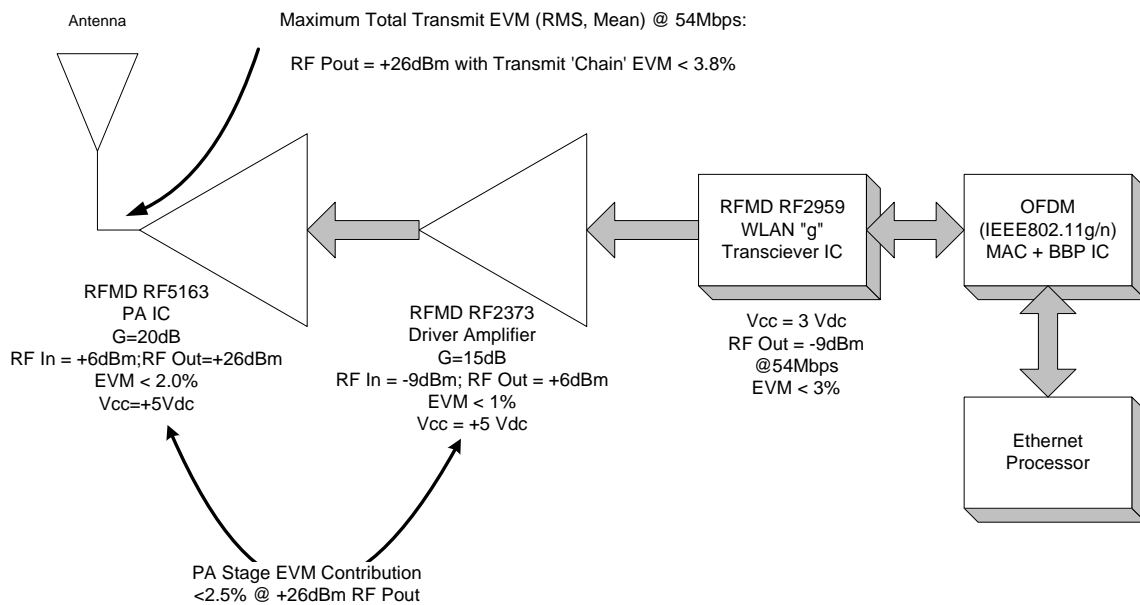

Figure 1. IEEE802.11g/n AP Transmitter Major Component Line-Up
Figure 1 below shows the major component line-up for an ultra linear fixed application (e.g., an access point (AP)) transmitter capable of producing  $+26dBm$  RF  $P_{OUT}$  with an amplifier stage (driver + final stage power amplifier IC, RF2373 + RF5163) EVM contribution of  $< 2.5\%$  EVM, RMS (mean).